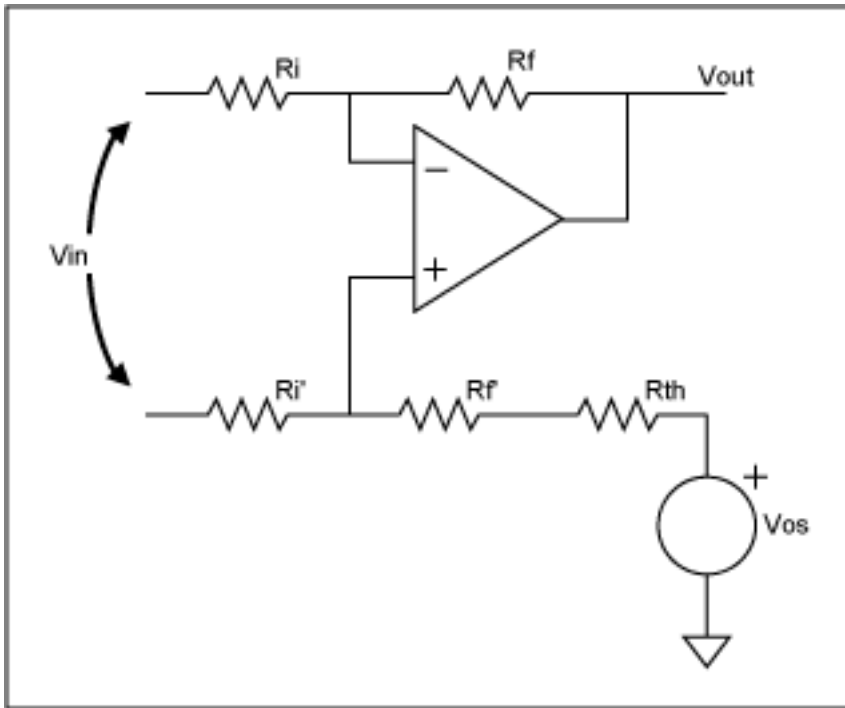

Figure 8. Differential amp with Thevenin equivalent of offset network.
**Figure 8** shows how the equivalent impedance of  $R_{th}$  adds an imbalance. This can be compensated by adjusting  $R_f'$ . While there may still be some non-linearity due to  $R_{th}$  over the full range of the EPOT, in most cases, since  $R_{th}$  will be dominated by  $R_2$ , these non-linearities are insignificant.